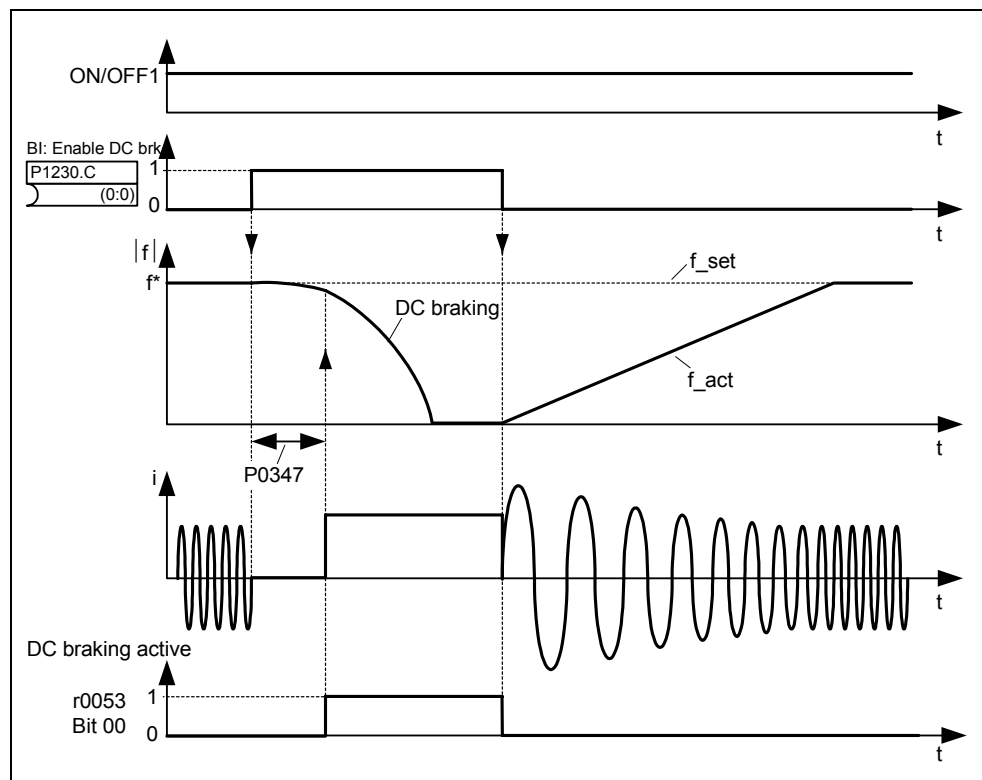

Fig. 3-64 DC braking after external selection
1. Enabled and selected using BICO parameter P1230 (refer to Fig. 3-64)